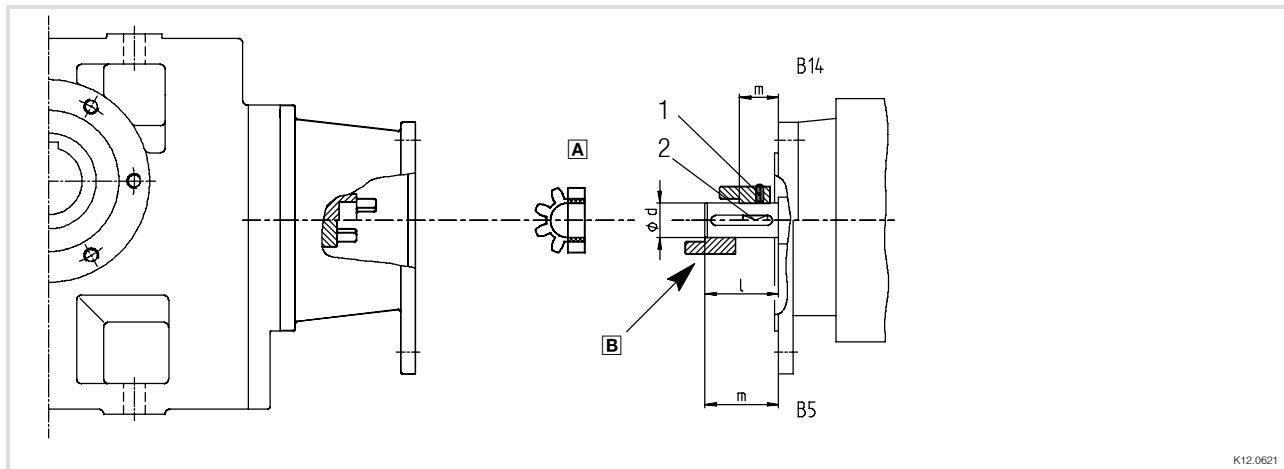

Fig. 2 Input side design N
1. Fit motor key (2).
2. Push the coupling hub over the motor shaft, mounting dimension m (see Fig. 2 and Tab. 2) must be observed.
3. Secure coupling hub against axial movement using the fixing screw or clamping screw (1).
- Push the coupling hub over the motor shaft, mounting dimension "m" (see Fig. 2 and Tab. 2) must be observed.